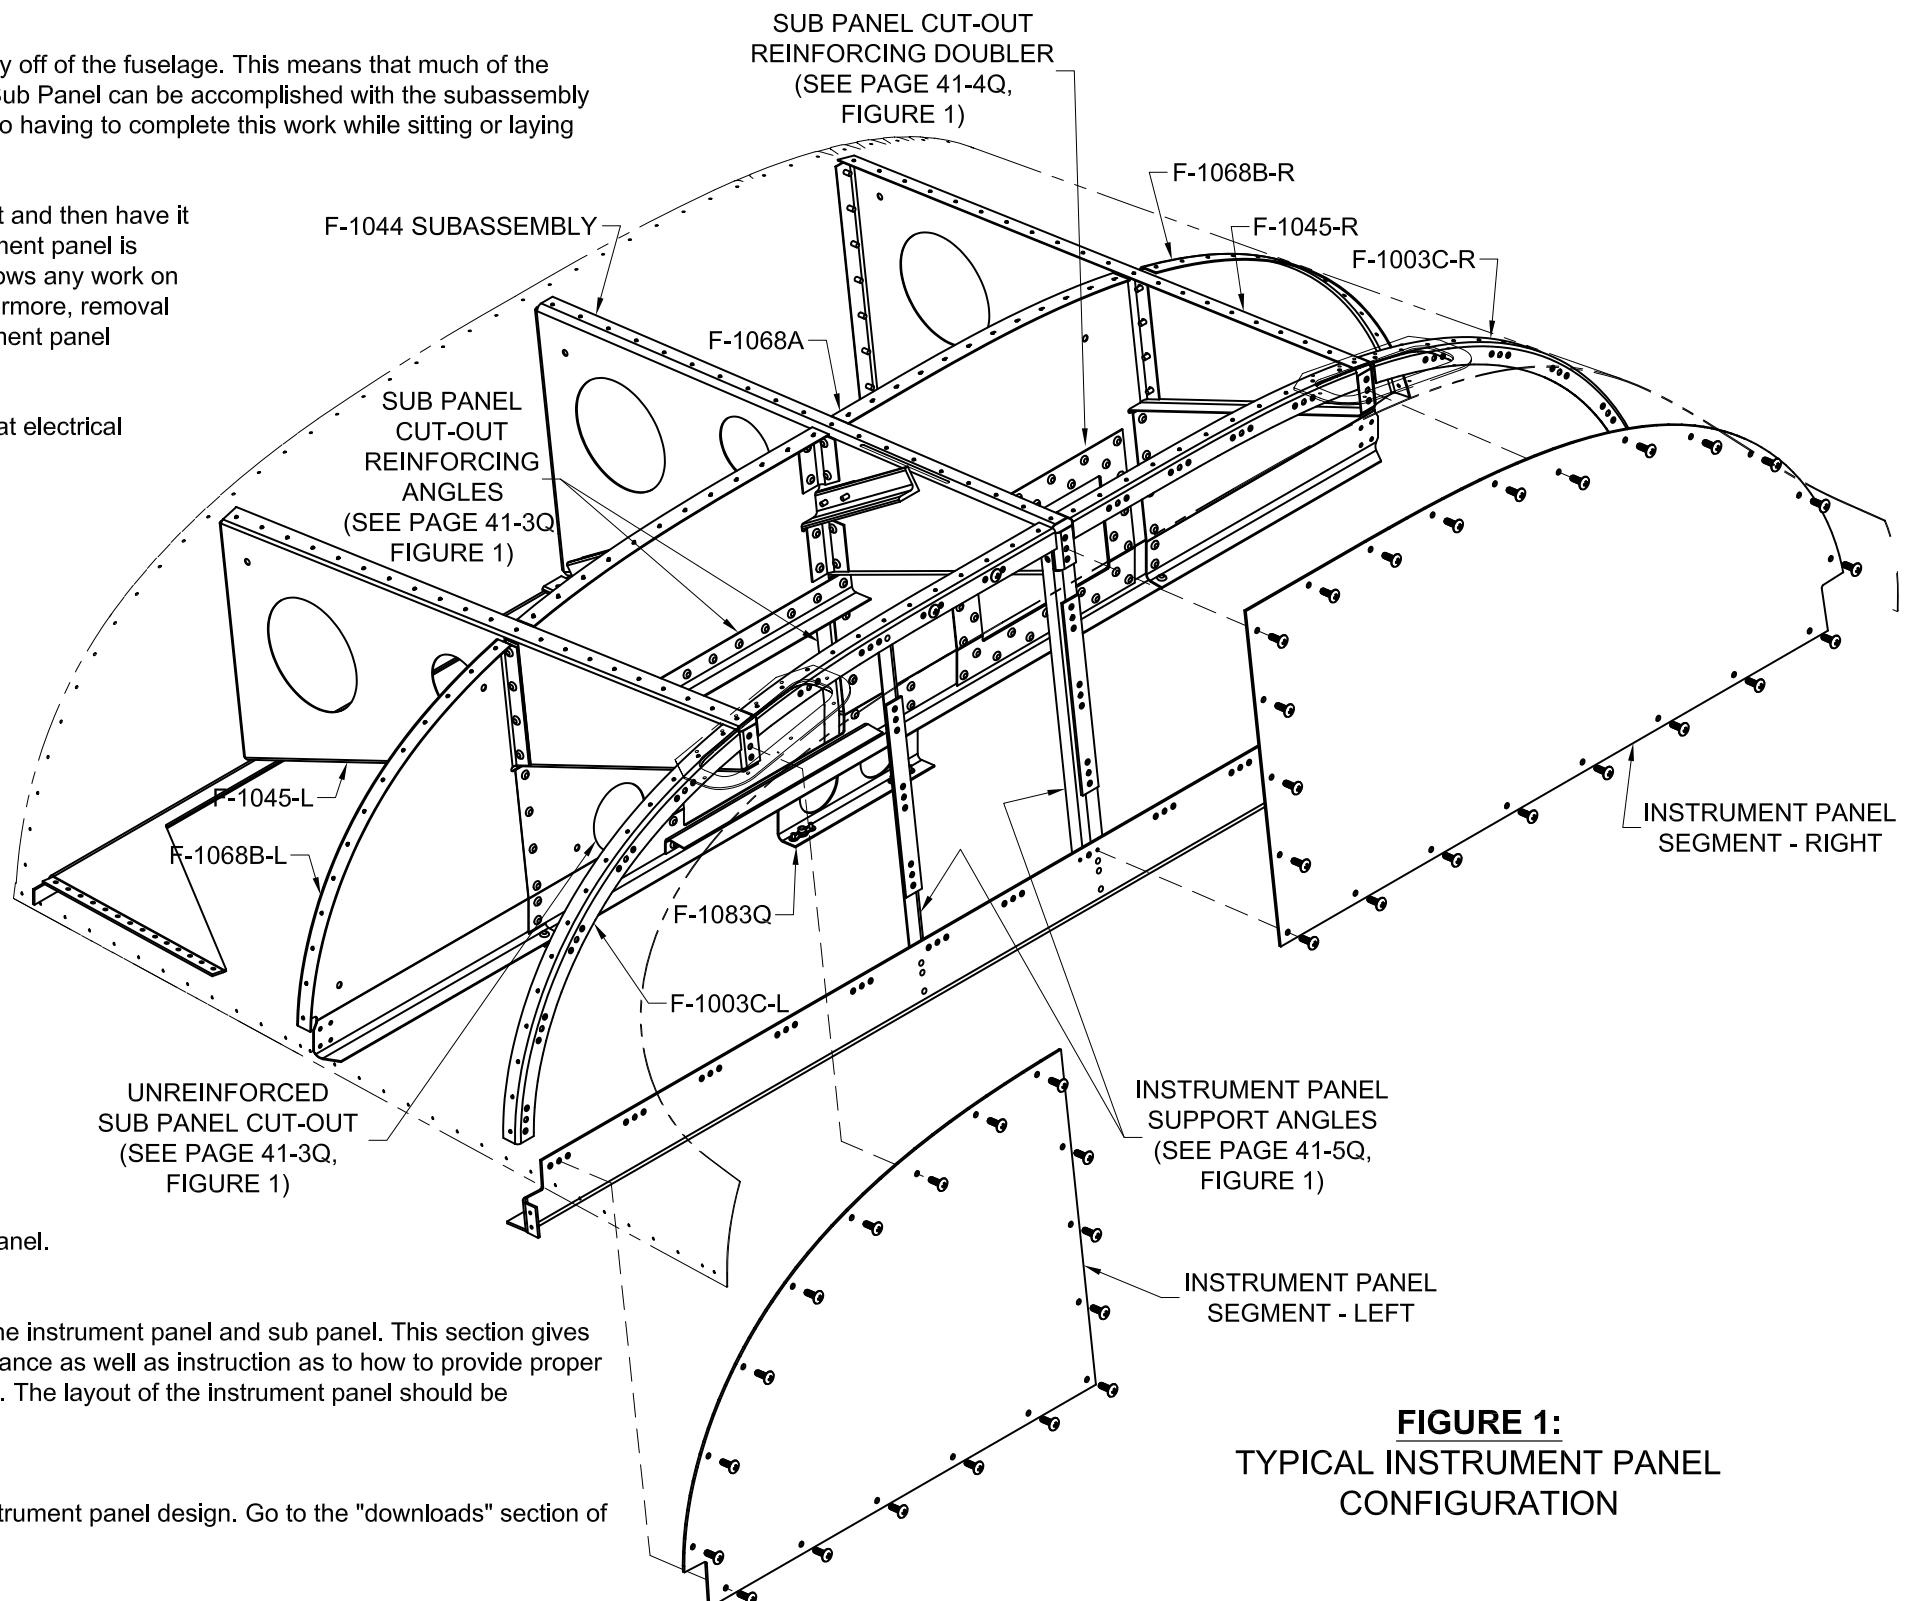

FIGURE 1:
Trimming of the F-1083Q Quadrant Mount Bracket to clear a cut-out in the sub panel is acceptable so long as at least three of the fastener locations remain. See Page 41-3Q, Figure 1.
The "free-leg" of the F-1003C-L/R, F-1003D, and F-1003E Instrument Panel Attach Flanges may be relieved between nutplates if/as required to provide clearance for items mounted to the instrument panel. See Page 41-4Q, Figure 1.
Step 1: Figure 1 depicts a typical instrument panel configuration and gives references for where to find detail views of particular features of the installation.